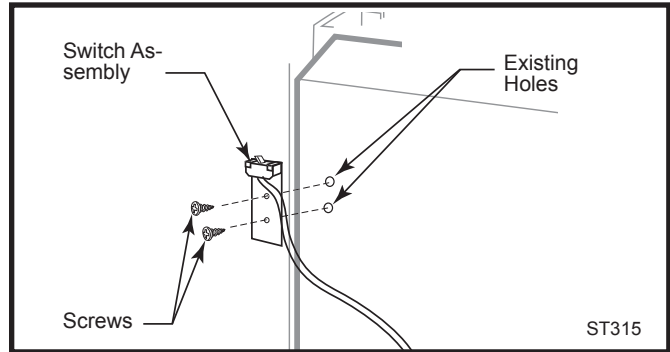

Fig. 16 Attach switch assembly to rear shroud.
1. Attach switch assembly to left rear side of stove shroud using two screws and existing holes in shroud. (Fig. 16)